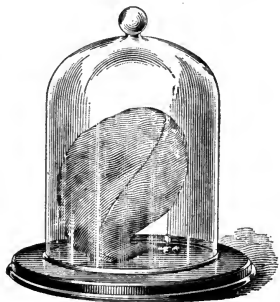

FIG. 14.
**41.** The most striking feature of all gases is their great expansibility. *If we inject a quantity of gas, however small, into a vessel, it will expand and fill that vessel.* If a bladder or football be partly filled with air and placed under a glass jar (called a receiver), from which the air has been exhausted, the bladder or football will immediately expand, as shown in Fig. 14. The force that a gas always exerts when confined in a limited